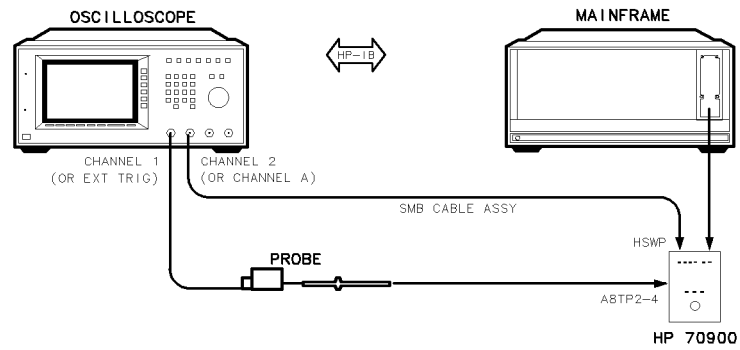
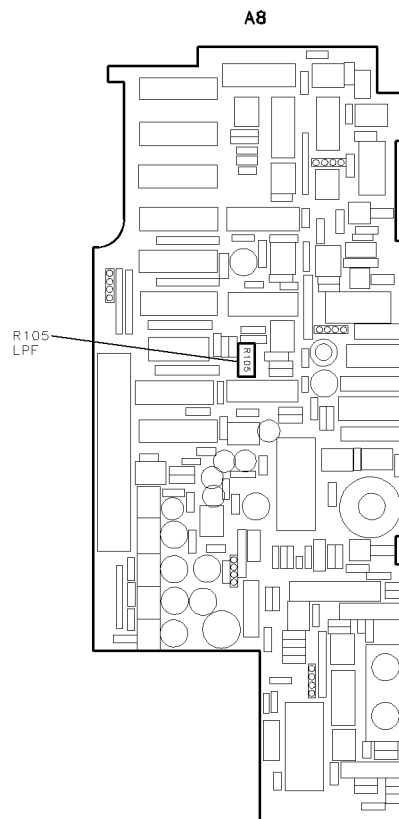

Figure 6-35. Equipment Setup for Adjustment 20. Sweep Overshoot
Figure 6-36. Locations for Adjustment 20. Sweep Overshoot
1. Remove the HP 70900B local oscillator source’s cover and connect the equipment as illustrated in Figure 6-35. Connect the oscilloscope probe to A8 frequency control (TP2-4). See Figure 6-36 for the location of the test point. The oscilloscope monitors the HP 70900B local oscillator source’s sweep DAC output when triggered by the module’s rear panel HSWP signal.